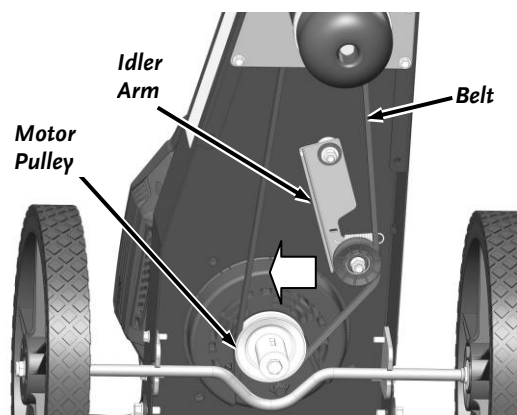

Figure 17
5. Move the Idler Arm away from the Belt and lift the Belt off the Idler Pulley (**Figure 17**).